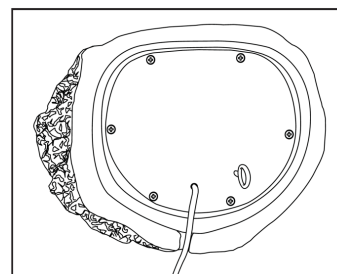

FIGURE 6
1. With the loudspeaker in the proper location, turn the loudspeaker over so the bottom of the loudspeaker is facing you, as shown in **Figure 6**.